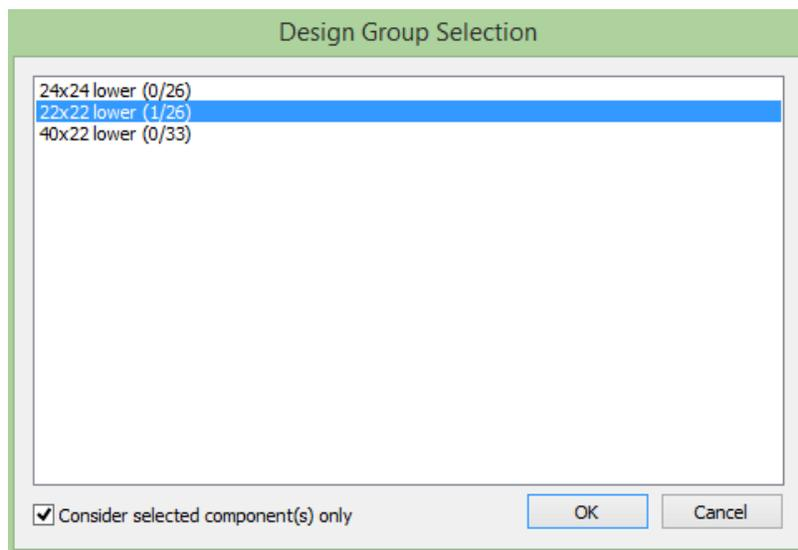

Figure 2-26 Design Group Selection for Code Check
- Go to *Column Design* → *Design* → *Code Check* . The screen shown in **FIGURE 2-26** will show up and automatically all Design Groups and associated columns will be selected. The user may wish to de-select any particular Design Groups. Additionally, the user may wish to design only certain selected columns, in which case you should select the columns first, then when this window comes